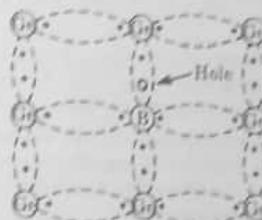

Fig. 3.12.2. Boron hole (acceptor).
2. Fig. 3.12.2 shows each atom of boron i.e., trivalent impurity is added to pure germanium crystal.